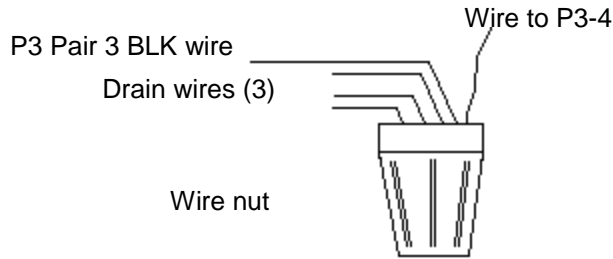

Figure 11: Remote Microphone connections for Speaker Switch 17-95161
1. Twist P3 Pair 3 BLK wire with all 3 drain wires from the 3 P3 pairs, add another 2-3" piece of stranded wire into a wire nut (5 total wires) as shown in Figure 11 below.